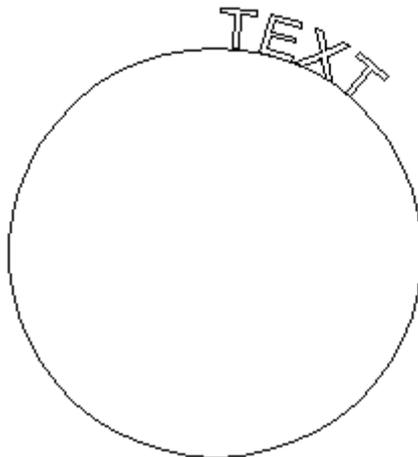

Figure 3-8 Text Arrangement
3.5.2 Click on "Text" in the drawing menu, or click on the icon  and left click on the arc of the drawn circle. The text will be arranged as shown in Figure 3-8.